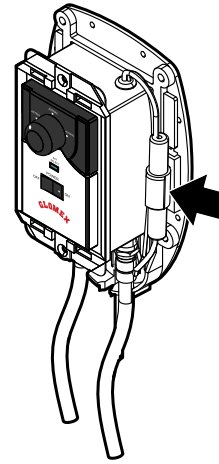

Fig. 33
- Remove the blown fuse from its seat indicated in **Fig. 33** and replace it with a new one (**type T 3.15A L 250 VAC 5x20**, i.e. Time Delay Fuse, with 5 mm diameter and 20 mm length, 3.15 A rated current and 250 V rated voltage).